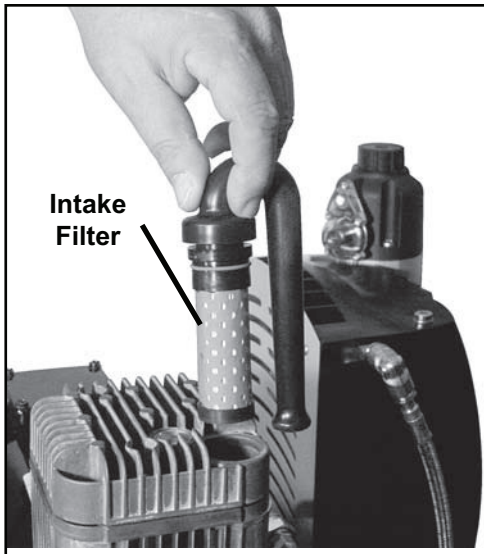

Figure 4. Intake Filter Location
- Change the Intake Filters, PN 89831 once a year, or more often in dusty environments. See Figure 4.